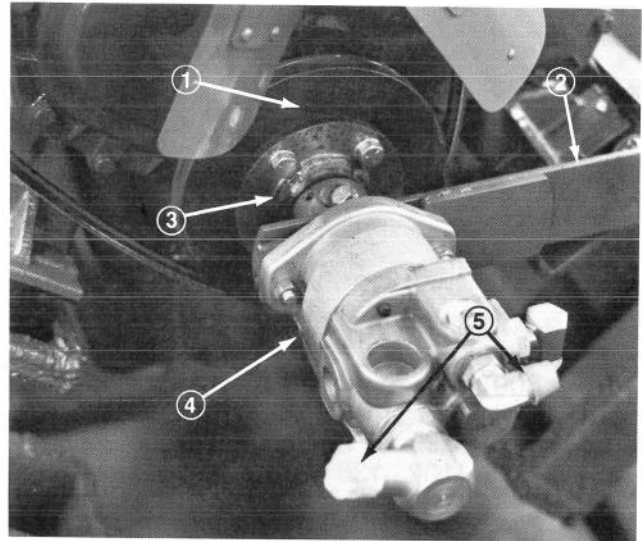

Figure 109
The hydraulic pump is coupled directly to the front crankshaft pulley (Fig. 109), and is equipped with a flow divider valve to operate both the frame hydraulic system and the tractor power steering system. The total pump capacity is 10.5 GPM (0.624 L/s) at 1200 RPM (pump speed) and 1500 PSI (10 343 kPa). The primary flow rate (power steering) is 2.0 GPM, 1250 PSI (8 618 kPa) relief valve setting.
2. Remove the capscrew and locknut from the end of the torque arm and the three hub mounting capscrews from the crankshaft pulley (Fig. 109) and remove the pump.